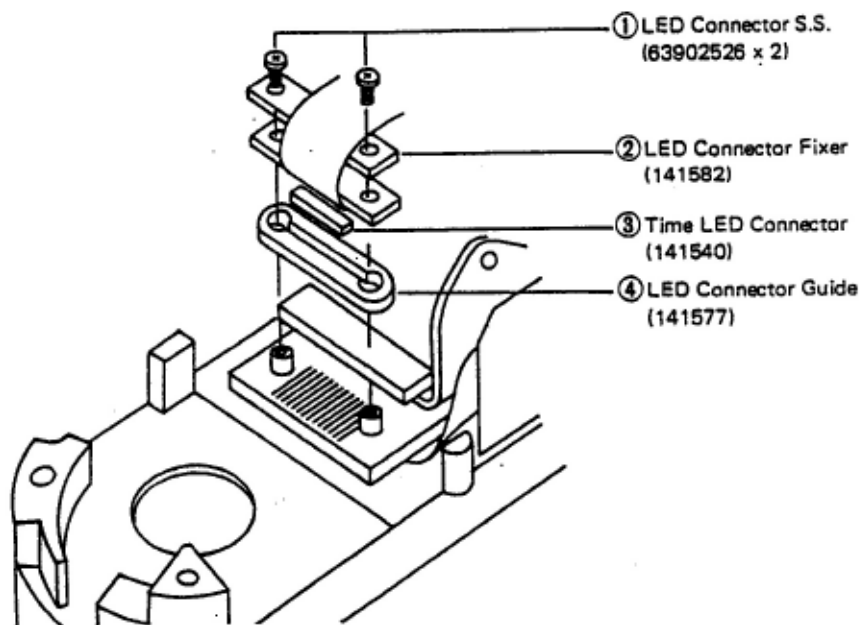

Fig. 54
- e) Remove the respective parts ① ~ ④ shown in (fig. 54) in numerical order.